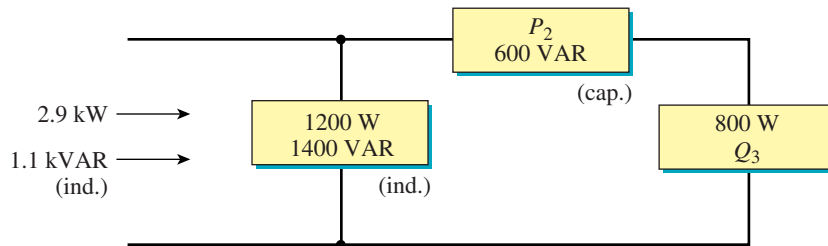

FIGURE 17-39
13. Refer to Figure 17-39. Find P_2 and Q_3 . Is the element in Load 3 inductive or capacitive?